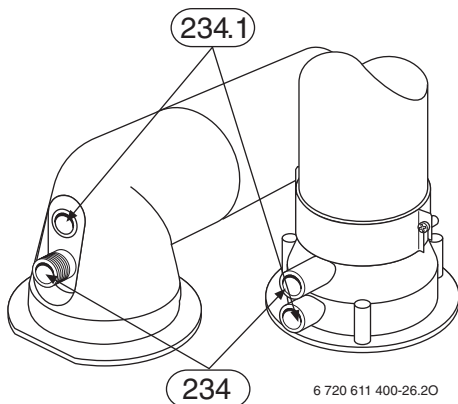

Fig. 46
- ▶ Remove sealing plug from combustion air testing point (234.1, Fig. 46).
- ▶ Remove sealing plug from flue gas testing point (234, fig. 46).